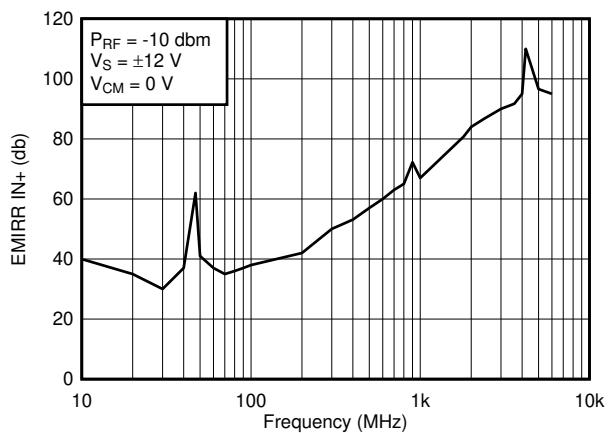

Figure 7-6. OPA2140 EMIRR
- EMIRR is easier to measure on noninverting pins than on other pins because the noninverting input terminal can be isolated on a PCB. This isolation allows the RF signal to be applied directly to the noninverting input terminal with no complex interactions from other components or connecting PCB traces. Figure 7-6
The EMIRR IN+ of the OPA2140 is plotted versus frequency as shown in Figure 7-6. If available, any dual and quad op amp device versions have nearly similar EMIRR IN+ performance. The OPA2140 unity-gain bandwidth is 11 MHz. EMIRR performance below this frequency denotes interfering signals that fall within the op amp bandwidth.